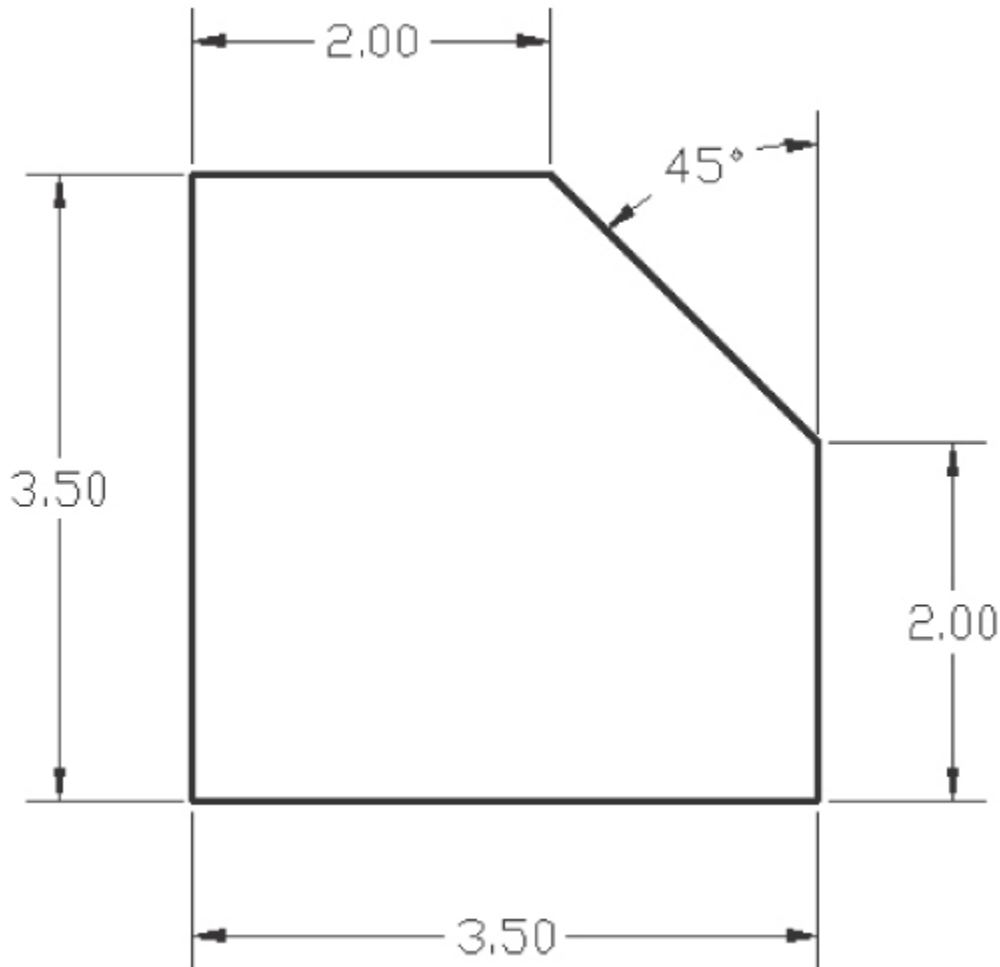

Figure 5-61
- 2** Create the drawing shown in Figure 5-61.